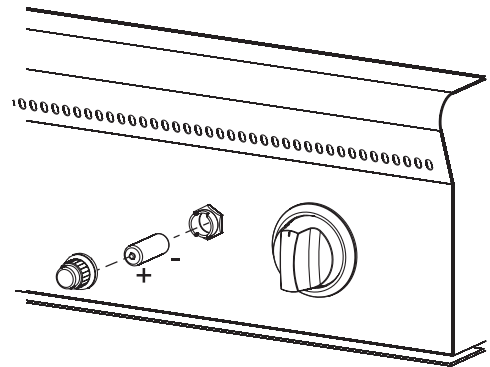

Figure 7
8. Remove ignitor button, insert AA battery (provided) positive side facing out, replace ignitor button. See Figure 7.